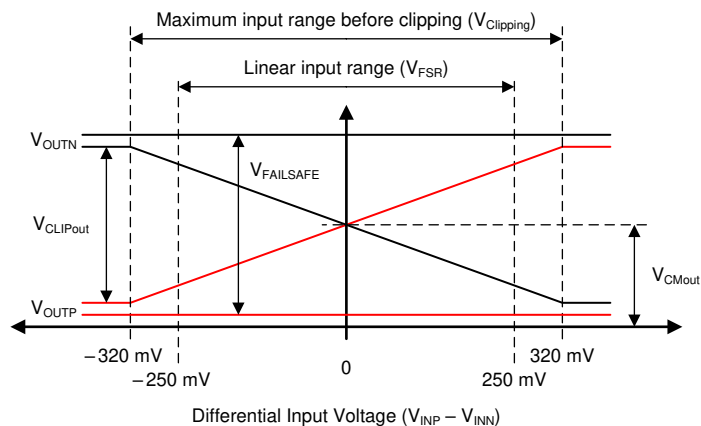

Figure 6-2. Output Behavior of the AMC3301
The AMC3301 offers a differential analog output comprised of the OUTP and OUTN pins. For differential input voltages ($V_{INP} - V_{INN}$) in the range from -250 mV to $+250$ mV, the device provides a linear response with a nominal gain of 8.2. For example, for a differential input voltage of 250 mV, the differential output voltage ($V_{OUTP} - V_{OUTN}$) is 2.05 V. At zero input (INP shorted to INN), both pins output the same common-mode output voltage V_{CMout} , as specified in the Electrical Characteristics table. For absolute differential input voltages greater than 250 mV but less than 320 mV, the differential output voltage continues to increase in magnitude but with reduced linearity performance. The outputs saturate at a differential output voltage of $V_{CLIPout}$ as shown in Figure 6-2 if the differential input voltage exceeds the $V_{Clipping}$ value.
The AMC3301 provides a fail-safe output that simplifies diagnostics on system level. Figure 6-2 shows the fail-safe mode, in which the AMC3301 outputs a negative differential output voltage that does not occur under normal operating conditions. The fail-safe output is active in two cases:
- The low-side does not receive data from the high-side (for example, because of a loss of power on the high side). In this case, the amplifier outputs are driven to the V_{FAILSAFE} value that is shown in Figure 6-2.
- The high-side DC/DC output voltage (DCDC_OUT) or the high-side LDO output voltage (HLDO_OUT) drop below their respective undervoltage detection thresholds (brown-out). In this case, the low-side may still receive data from the high-side but the data may not be valid. The amplifier outputs are driven to the V_{FAILSAFE} value that is shown in Figure 6-2.